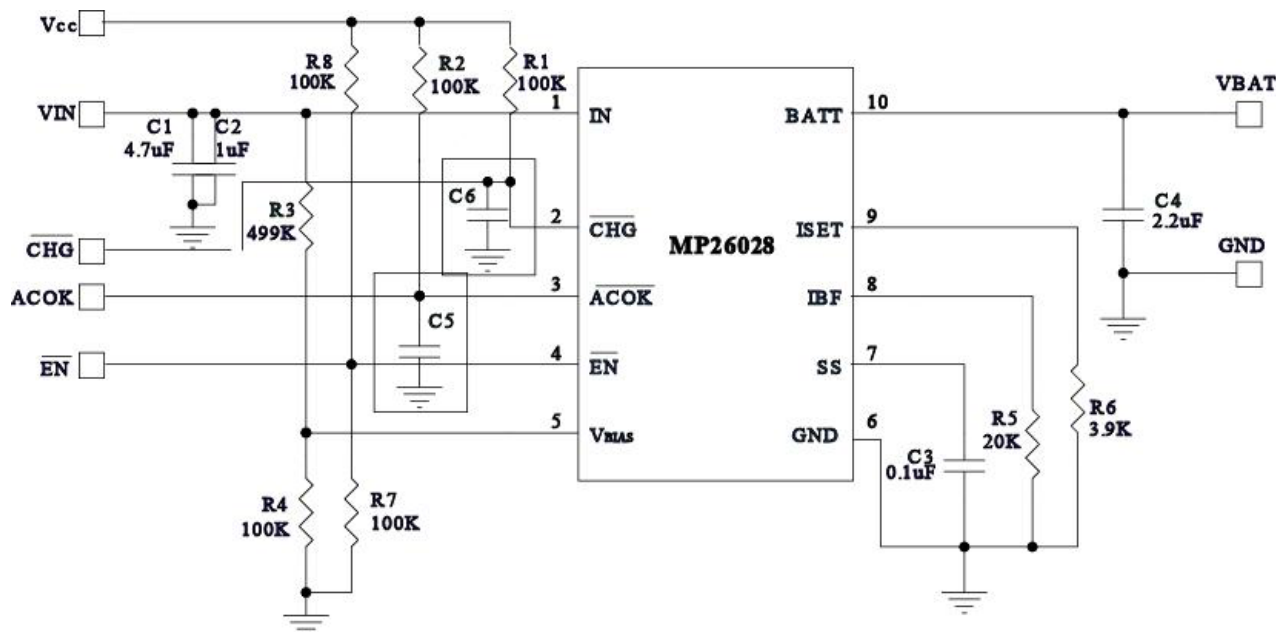

Figure 5—Filtered Charge Status & Input Power Good Interface
When interfacing with the system, glitches may occur on the power supply input (IN) when the AC-power adaptor is plugged in and out. It is desirable to blank the glitches so that the system can properly operate with AC power adaptor. A simple Solution is to add the RC filter (C5 and C6) on the pin $\overline{\text{ACOK}} / \overline{\text{CHG}}$ as shown in Figure 5. The size of C5 and C6 depends on the width of the glitch and the rise time of the interface.
Power-On Reset (POR) feature can be applied to the MP26028 to ensure that the device starts operating in a known state. The flow chart in Figure 5 describes the conditions and operation